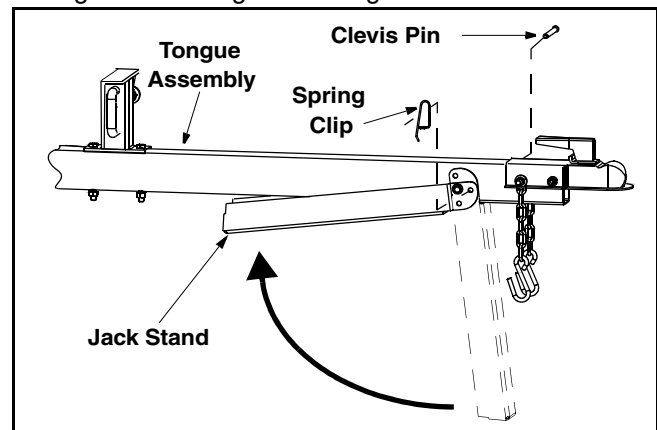

Figure 9
- Support the tongue and pivot the jack stand up against the tongue. See Figure 9.
- Secure with the spring clip and clevis pin previously removed. See Figure 9.